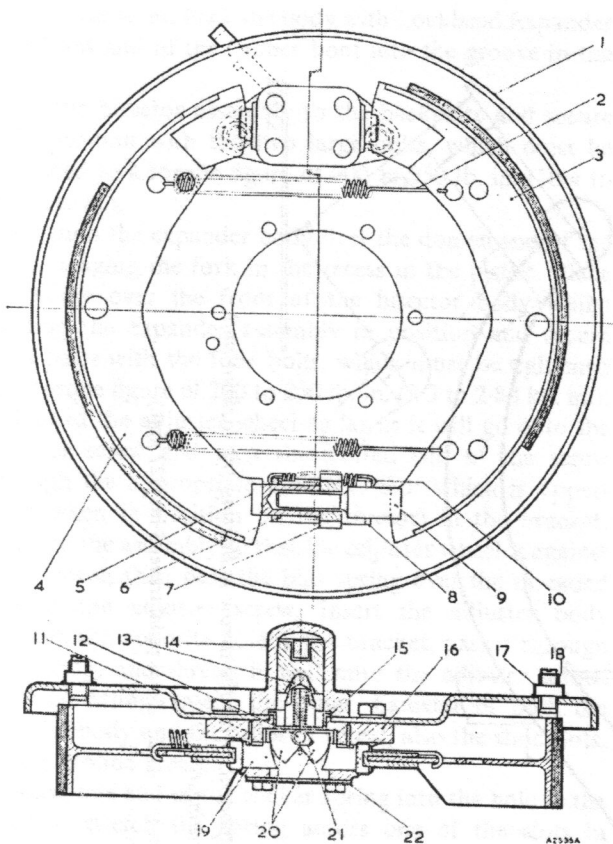

Fig. Q.28
Compress the spring in the fork (13, Fig. Q.28), take out the spring retainer (15), and with the tappets (19) fully back against the dowel pins (11) push out the fork and segment assembly.
Lay the brake-shoes on a bench with the 'toe' (the end showing the greater portion of lining platform) of one facing the 'heel' of the other and connect the pull-off springs to the under side of the shoes, using the holes in which they were originally fitted (see Fig. Q.28).
Assemble the shoes on the backplate, with the springs innermost, engaging the toe of the primary shoe (4, Fig. Q.28) with the slot in its tappet and the toe of the secondary shoe engaging the slot in the adjuster screw; locate the heel of each shoe in their respective abutments.
If the steady pins (18, Fig. Q.28) have not been disturbed the 'squareness' of the brake-shoe linings should be correct. If the steady pins have been disturbed it will be necessary to check that the lining of each shoe is parallel with the axis of the axle. Proceed as follows.